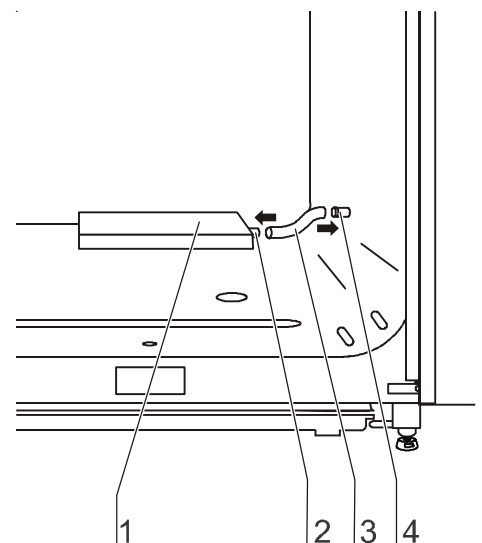

Fig. 15
- Fig. 15:** The gas humidification [10] is installed to the water tray parallel to the rear panel of the device. The position to the right side wall is predetermined by the hose length.